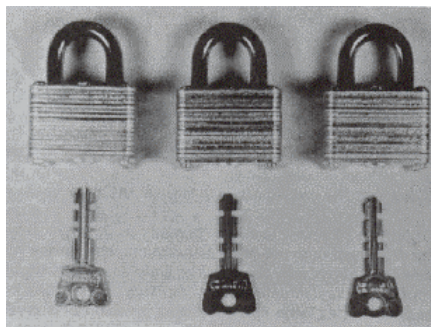

fig 1
**Simple Warded Locks** - These are typically found in cheaper padlocks, file boxes, luggage, etc. The keys are usually stamped from flat steel and nickel plated. Higher quality warded locks sometimes use corrugated keys in an effort to provide better security and also make the key stronger. Three such padlocks are shown in Figure 1. Their respective keys are also shown. A closer look will reveal that each key has the ward cuts in a slightly different position.
Manufacturers, in an effort to improve the security of this basic locking mechanism, have now added another spring latch with a ward between them. This design complicates efforts to pick it with a bent wire as previously done. However, a double headed pick key will do the job. Such a key is shown in Figure 4. This key will operate all three locks pictured in Figure 1. Manufactured pick key sets such as shown in Figure 5 are commercially available to locksmiths and law enforcement agencies.